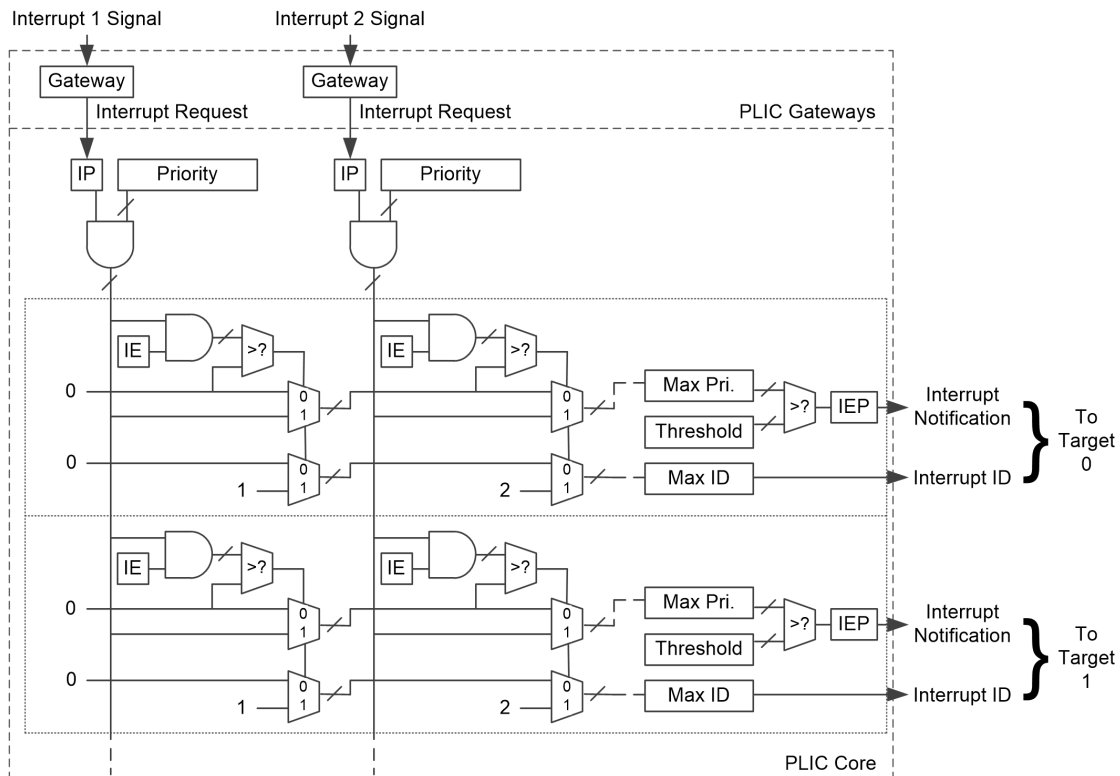

Figure 8.3: Platform-Level Interrupt Controller (PLIC) conceptual block diagram.
Platform-Level Interrupt Controller prioritizes and distributes global interrupts in a processor system. Figure 8.3 provides a quick overview of PLIC operation. The PLIC connects global interrupt sources to interrupt targets, which are usually hart contexts. The PLIC contains multiple interrupt gateways, one per interrupt source, together with a PLIC core that performs interrupt prioritization and routing. Each interrupt source is assigned a separate priority. The PLIC core contains a matrix of interrupt enable (IE) bits to select the interrupts that are enabled for each target. The PLIC core forwards an interrupt notification to one or more targets if the targets have any pending interrupts enabled, and the priority of the pending interrupts exceeds a per-target threshold. When the target takes the external interrupt, it sends an interrupt claim request to retrieve the identifier of the highest-priority global interrupt source pending for that target from the PLIC core, which then clears the corresponding interrupt source pending bit. After the target has serviced the interrupt, it sends the associated interrupt gateway an interrupt completion message and the interrupt gateway can now forward another interrupt request for the same source to the PLIC.